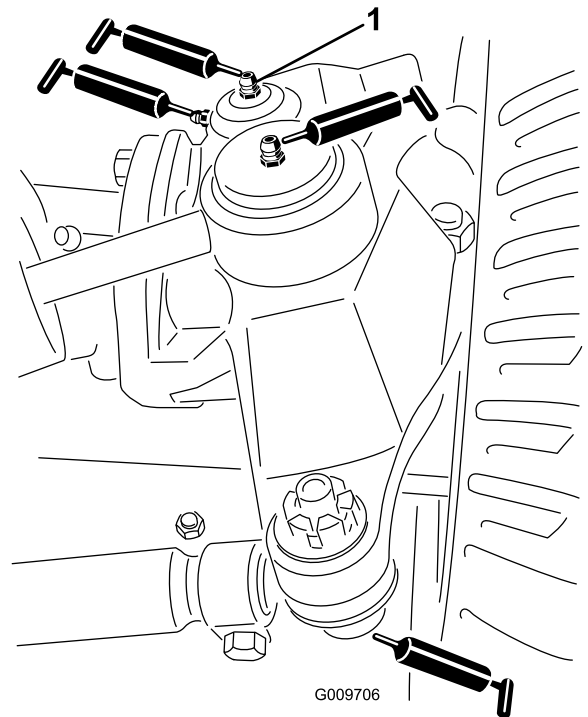

Figure 52
- Steering-cylinder ball joints (2) as shown in Figure 52
- Tie-rod ball joints (2) as shown in Figure 52
- Kingpin bushings (2) as shown in Figure 52